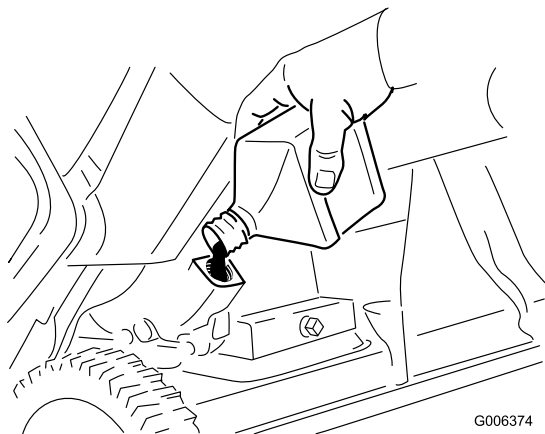

Figure 32
8. With the machine in the operating position, **carefully** pour oil into the oil fill hole. Wait 3 minutes for the oil to settle and add enough to bring it to the point of overflow. There should be very little, if any, oil left in the bottle. (Figure 32).